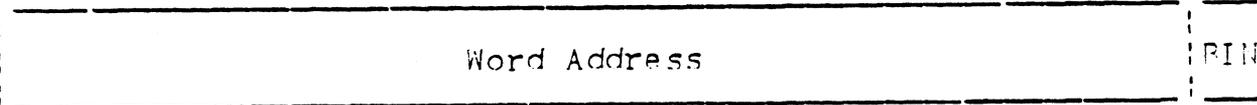

Figure 3. MIGHTY-MUX Control Words
Within each port control block (PCB), 6 words are used for Mux control - namely words 0, 1, 4, 5, 6, and 7; the remainder may be used for any other purpose. The three even-numbered words control input, the odd-numbered ones control output. In each set of three, one word is a general control word and the other two are pointers to the beginning and end of the desired buffer areas in core. The sizes and locations of these buffers are therefore entirely under software control. Several ports may transmit from the same buffer area at one time, since each keeps track of its own pointers. If the port is operated in single-character mode, the pointer words are not read by the Mux and may be used for any other purpose. The meanings and formats of the six control words are shown in Figure 3 and explained in Section 4.
4. Definition of Control Words (See Figure 3)